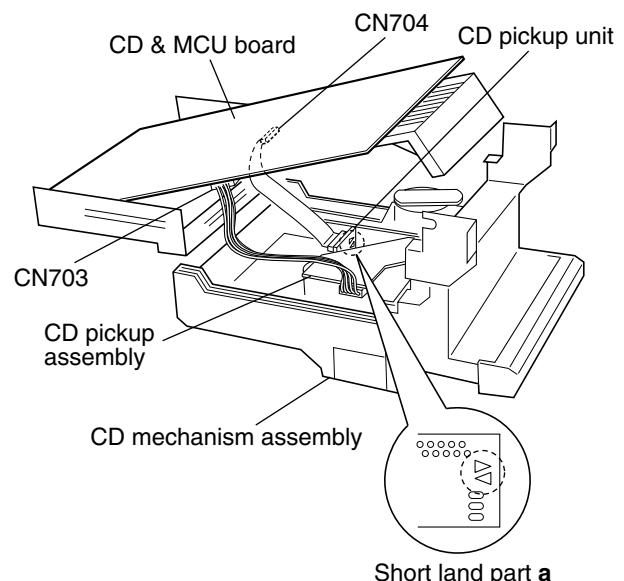

Fig.2
4. Lift the CD & MCU board and attach solder to the short land part **a** on the CD pickup assembly. (See Fig.2.)
5. Disconnect the card wire from the connector CN704 on the CD & MCU board, and take out the CD & MCU board. (See Fig.2.)
**[Cautions]** · Be sure to solder the short land part **a** on the CD pickup unit before disconnecting the card wire from the CD pickup assembly. (See Fig. 2.) If the card wire is disconnected without attaching solder, the CD pickup may be destroyed by static electricity.